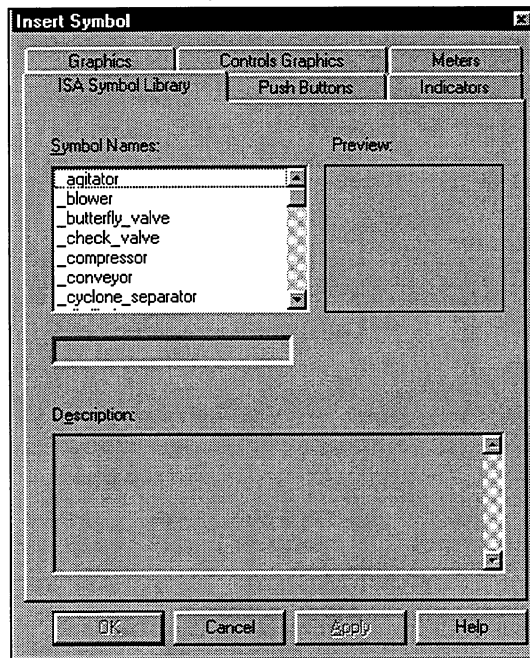

Figure 8-3. Insert Symbol Dialog Box
2. Select the Insert Symbol command on the Symbol menu in the Graphic Editor or click on the Insert Symbol button. The Insert Symbol dialog box opens, as shown in Figure 8-3.